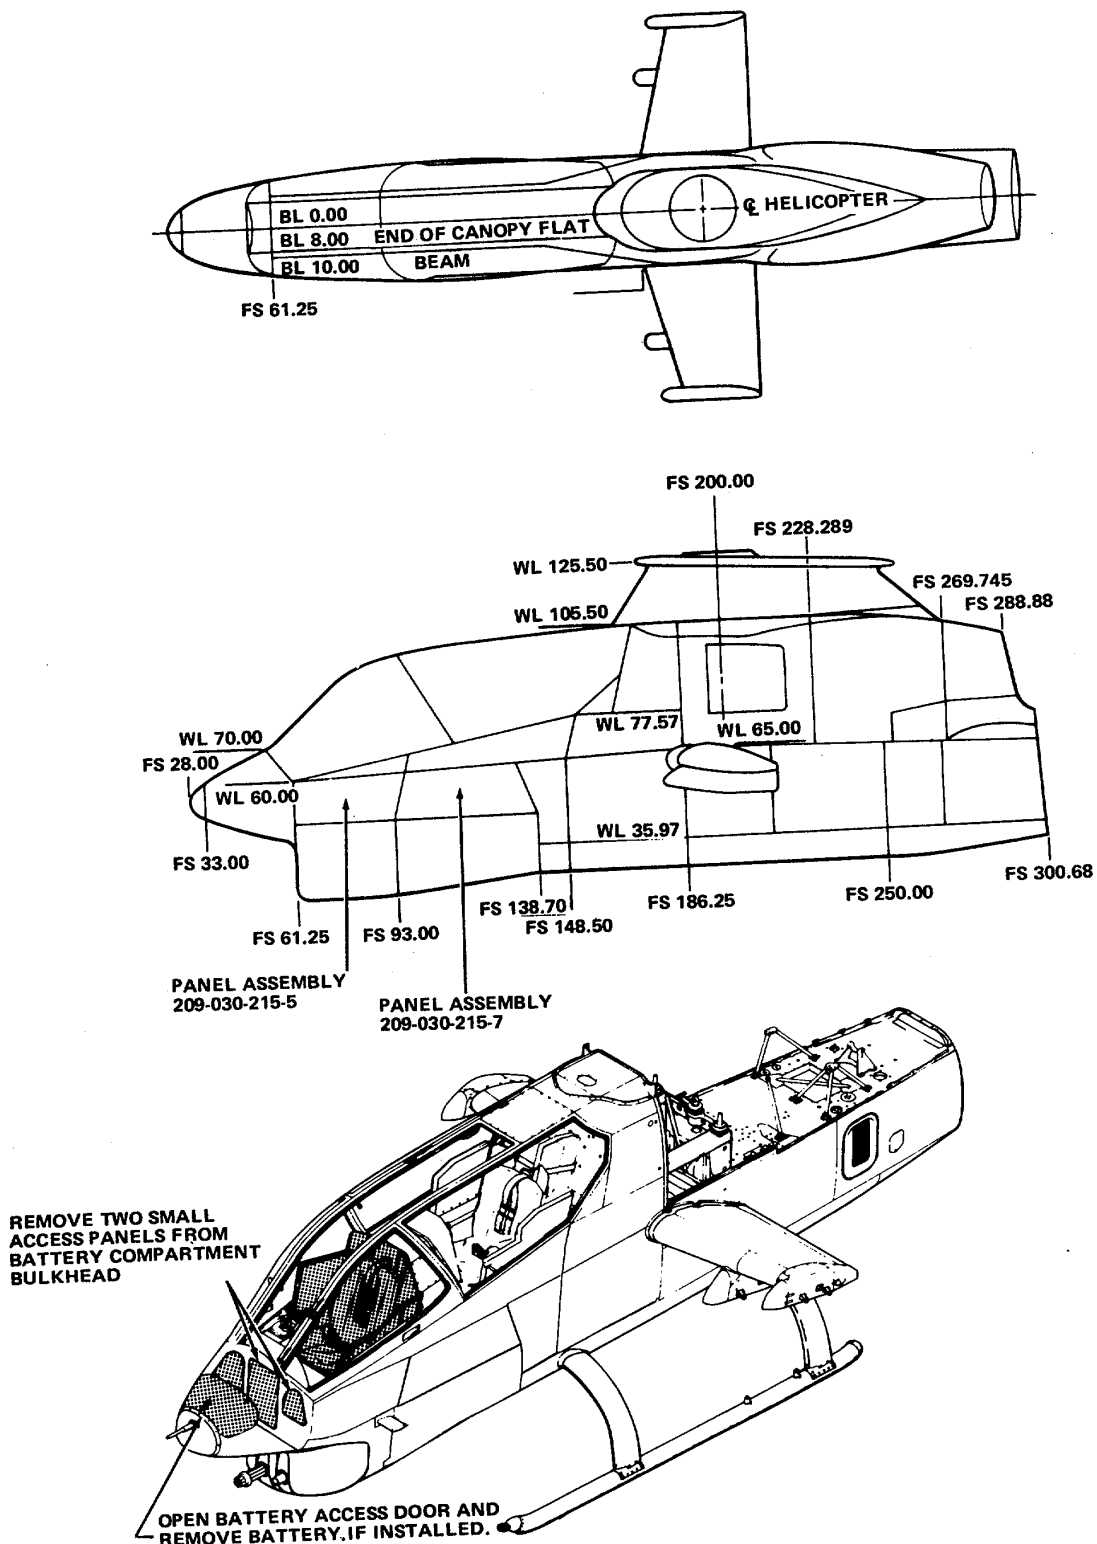

Figure 2-1. Panel and Station Locations.
- (1) Disconnect battery.
- (2) Release latches and open pilot canopy.
**b.** Remove the following items and retain for installation (fig 2-1):
- (1) Battery and two access panels in battery compartment, aft bulkhead approximate FS46.
- (2) Panel assemblies 209-030-215-5 and 209-030-215-7 located on left side of fuselage (fig 2-1).
- (3) C-1611/AIC Intercom, Gunner instrument panel.
- (4) Proximity Warning Device on pilot instrument panel.
- (5) Pull back the quilted padding behind pilot seat at FS167 to expose a portion of the PWD upper coax cable 1560AH1G-046-3.
(2) Cut a 5/8 inch cylindrical section from the upper coax cable 1560AHIG-046-3 polyethylene jacket where nylon clamp was located.
(3) Remove paint from around clamp mounting point to provide a clean grounding connection. See TM 55-1500-323-25, para 8-13 and 8-14.
(4) Remove and dispose of rubber from clamp MS21919-DG4. Apply a brush coating of alodine to clamp and attaching point.
(5) Install clamp MS21919-DG4 over cut 5/8 inch cylindrical section and secure clamp with screw and washer previously removed. Apply zinc chromate to ground connection.
(6) Apply a coating of sealant RTV102 to clamp MS21919-DG4 and cable, extending to at least one inch on both sides of clamp.
***Before cutting coax cable jacket 1560AH1G-046-3 at FS138, determine that no sharp bends exist after completing steps (7) thru (13). Initiate cut to cable jacket as required.***
(7) Cut a 5/8 inch cylindrical section from upper coax cable 1560AHIG-046-3 polyethylene jacket aft of TB28 near ell bracket, at approximately FS138, WL65, BL11 (fig 2-1).
(8) Drill one 0.199 inch diameter hole, if one does not exist in the ell bracket.
(9) Remove paint from around drilled hole to provide a clean grounding connection.
(10) Remove and dispose of rubber from around clamp MS21919-DG4. Apply a brush coating of alodine to clamp, attaching point, and hardware.
(11) Install bracket 20-032-1 using screw MS51958-63, washer MS16795-808, and nut 79-NM-02 in drilled hole.
(12) Install clamp MS21919-DG4 over cut 5/8 inch cylindrical section and secure to bracket 20-032-1 using screw MS51958-63, washer MS 16795-808, and nut 79-NM-02. Apply zinc chromate to ground connection.
(13) Apply a coating of sealant RTV102 to clamp MS21919-DG4 and cable extending to at least one inch on both sides of clamp.
(14) Route cable assembly 1560AH1-063-3 as follows: